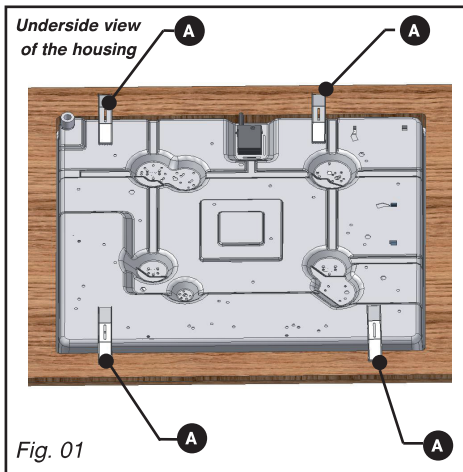
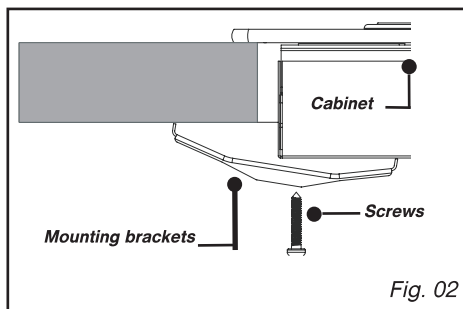

Fig. 01
Fig. 02
– If you wish, you can immobilise the hob using the four mounting brackets delivered with a screw (Fig. 02) to attach them to the four corners of the housing. **You must use the holes provided for this purpose, according to the diagram above (Fig. 01).**